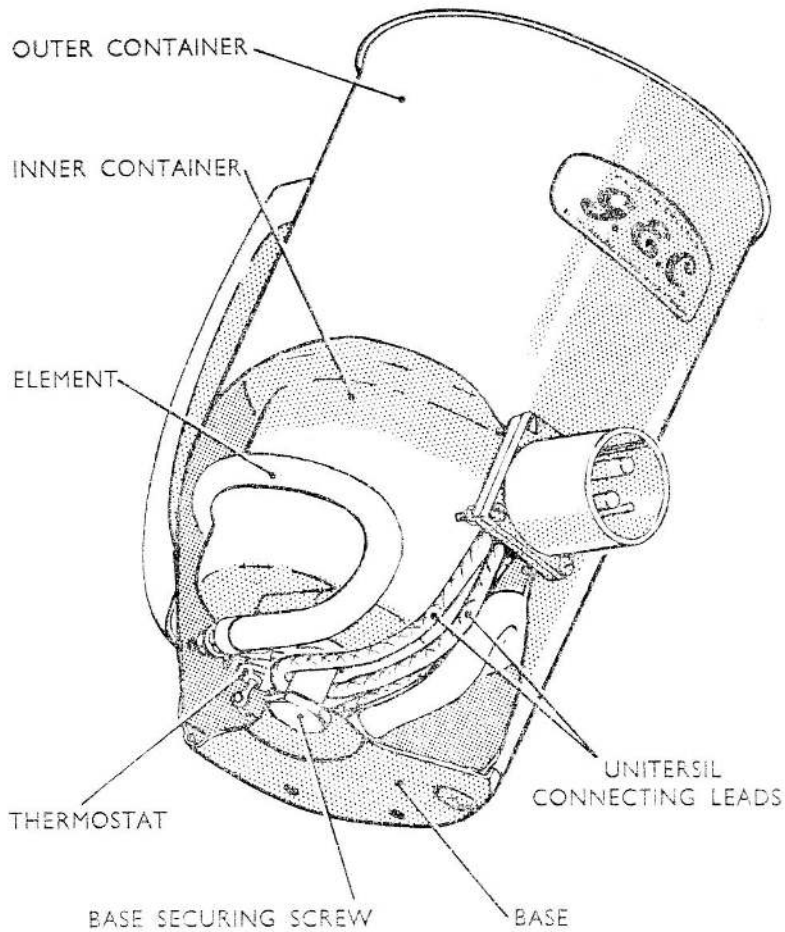

Fig. 1. Part sectional view of hotcup
2. The hotcup consists of an inner container, an outer casing and a lid, a part sectional view is given in fig. 1. The inner container is of chromium plated copper and has a sheathed wire element hard soldered to the lower part, the outer casing and the lid are of chromium plated brass whilst the handle and knob are of black bakelite. The outer casing consists of the casing body and a base plate, the casing body fitting into the rim of the base plate. The inner container fits into the outer casing, the lip of the container fitting over the rim of the outer casing body. The assembly is secured by a ¼ in.